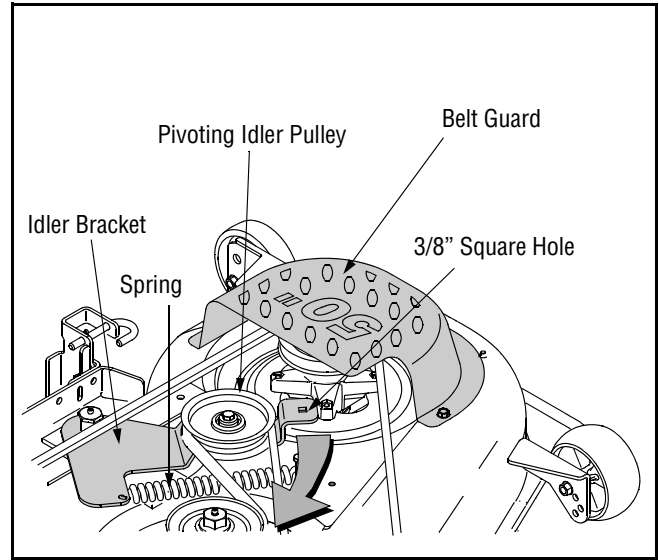

Figure 17
- To ease in removing the belt in later steps, loosen, but do not remove, the bolt which secures the pivoting idler pulley to the idler bracket. See Figure 17.
- Insert a 3/8"-drive ratchet wrench (set to *tighten*) into the square hole found in the idler bracket on the left side of the deck's surface. See Figure 17.